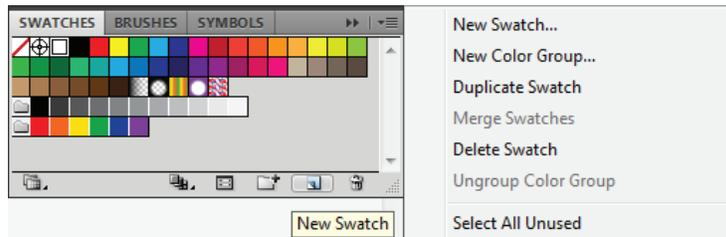

Figure 2
2. Click the arrow in the upper right-hand corner of the Swatches palette to display a secondary menu and select New Swatch to display the New Swatch dialog, or click the New Swatch icon on the Swatches toolbar (Figure 2).